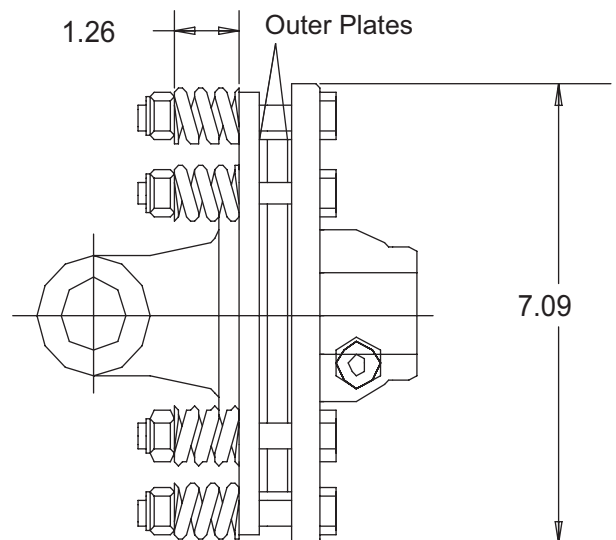

Figure 8. Slip Clutch Assembly
of the six nuts by two full revolutions. The gap between Belleville spring and thrust plate should be 1/8" as shown in Figure 8.
3. Mark outer plates of slip-disc clutch as shown in Figure 8.
9. Reassemble clutch and tighten bolts no more than 1/8 of a turn at a time until desired setting of 1.26" as shown in Figure 8.